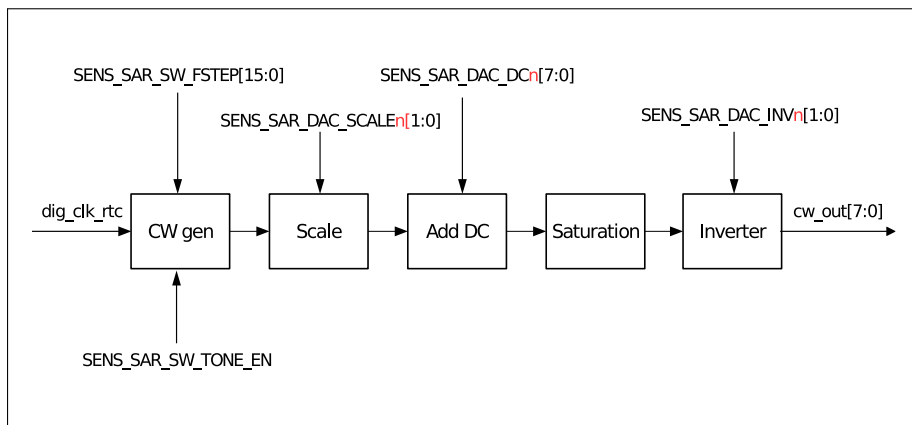

Figure 151: Cosine Waveform (CW) Generator
The cosine waveform (CW) generator can be used to generate a cosine / sine tone. A diagram showing cosine waveform generator's function is presented in Figure 151.